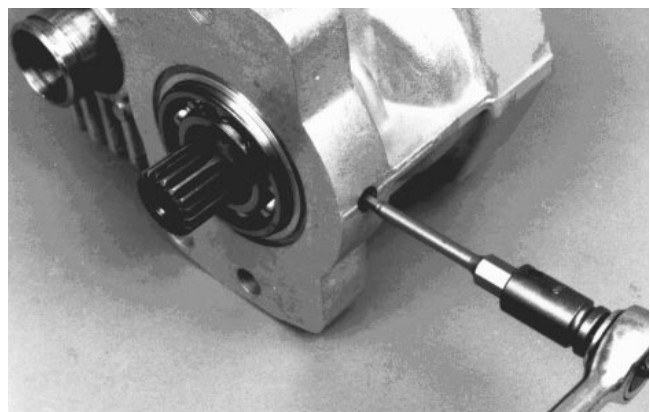

Figure 49
10. Use an internal hex wrench to remove pipe plug over motor shaft bearing retaining pin (Fig. 49).